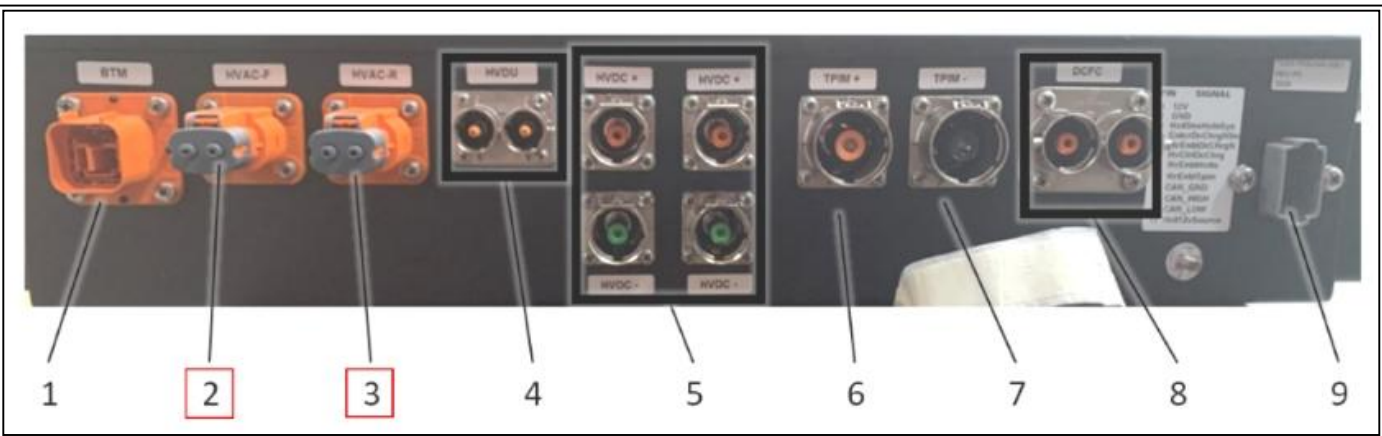
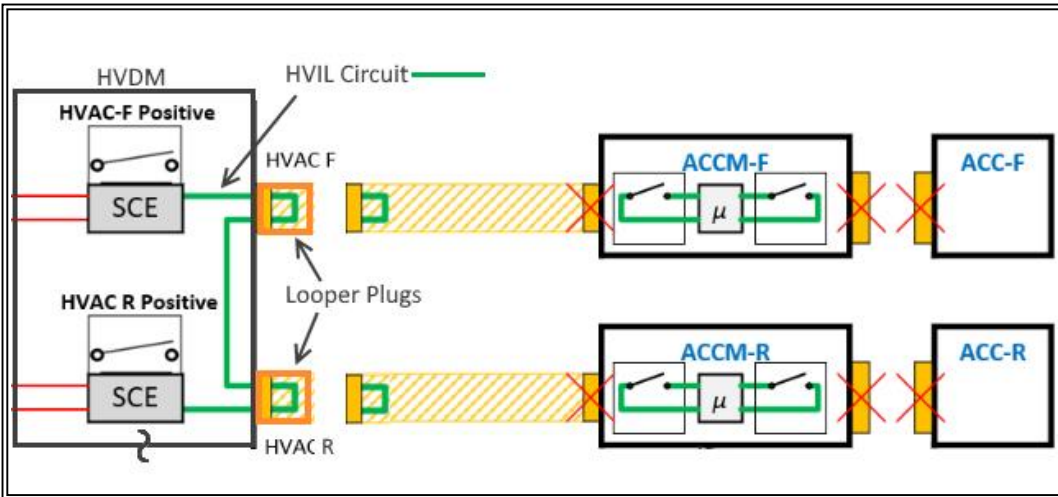

Figure 2: HVDM
Figure 3: HVIL Circuit
Looper Plugs are available through the PDCs for diagnostics of the EV Bus HVAC systems. HV Looper Plugs allow a technician to disconnect the HVAC Front and HVAC Rear high voltage (HV) connections at the HVDM (Figure 2) and also maintain the High Voltage Interlock Circuit (HVIL) Figure 3.